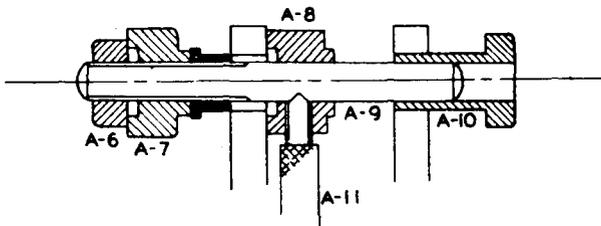

Fig. 28
(5) To insert new bearings use the tool assembly shown in Fig. 28. Part A-11 is inserted into part A-8 and tightened so that its point goes into the conical spot in A-9. Make certain that the oil hole and the set screw hole in the bearing are lined up for their corresponding holes in the casting so that when the bearing is finally in place the holes in the bearing will coincide with those in the casting. Force the new bearing into place by tightening nut A-6. Insert the bearing holding screws.
(6) Insert the shaft in the new bearings and see if the shaft turns easily. If it binds then the bearings should be line reamed using the AR-9 reamer. It will be necessary to loosen the two screws which hold the two castings together and to move the castings far enough apart so that the reamer is not blocked by the tell-tale casting. Take care not to lose any shims that may be between the two castings. After reaming, make certain that all metal particles are cleaned out and that none have lodged in the oil holes. Final tightening of the two screws holding the castings together should be left till later, paragraph (12).